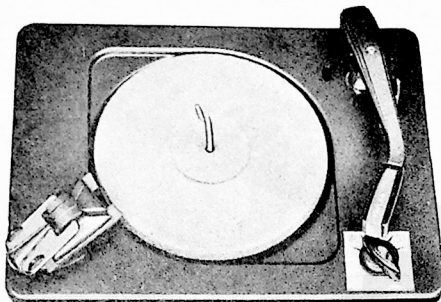

Figure 2—CHANGER, RECORD SHELF IN 10" POSITION.
2. Place the tone arm on its rest post, turn the record shelf fully counterclockwise to the 10" position and lift the record hold-down over and toward the corner of the changer, as shown in figure 2.